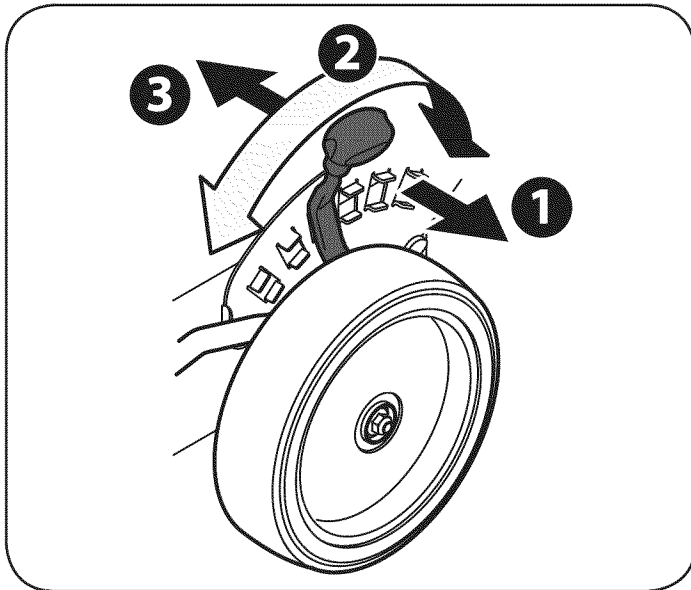

Figure 6
1. Pull the height adjustment lever outward towards wheel (unit will tend to fall when lever is moved outward). See Figure 6.